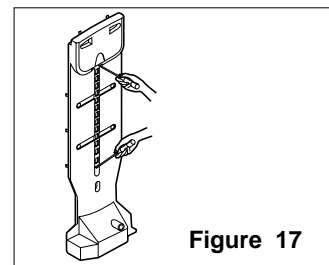

Figure 17
1. Remove an upper and lower Cap by using a flat screwdriver, and loosen 2 screws. (Figure 17)